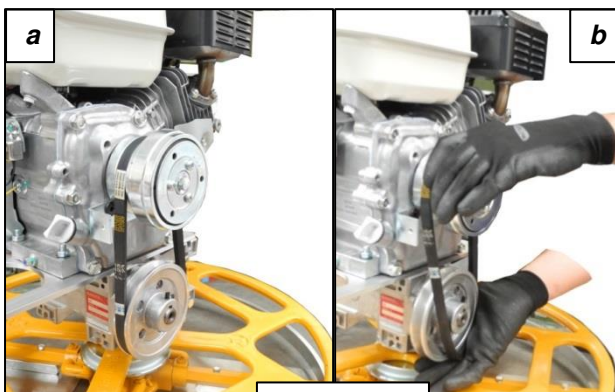

FIG. 6.5
- Replace the belt as shown like in FIG. 6.5, by turning the pulley and remove the belt (fig. 6.5, b);